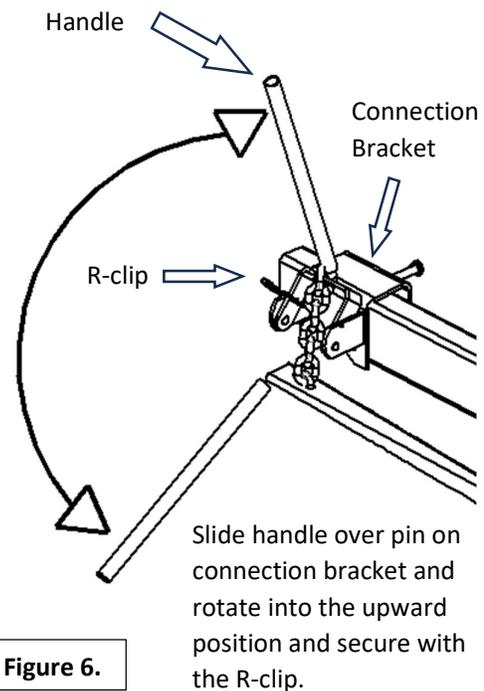

Figure 6.
- j. Slip the lever tube over the stub of the connection bracket and swing into the upward position and secure with the R-clip. **See figure 6.**